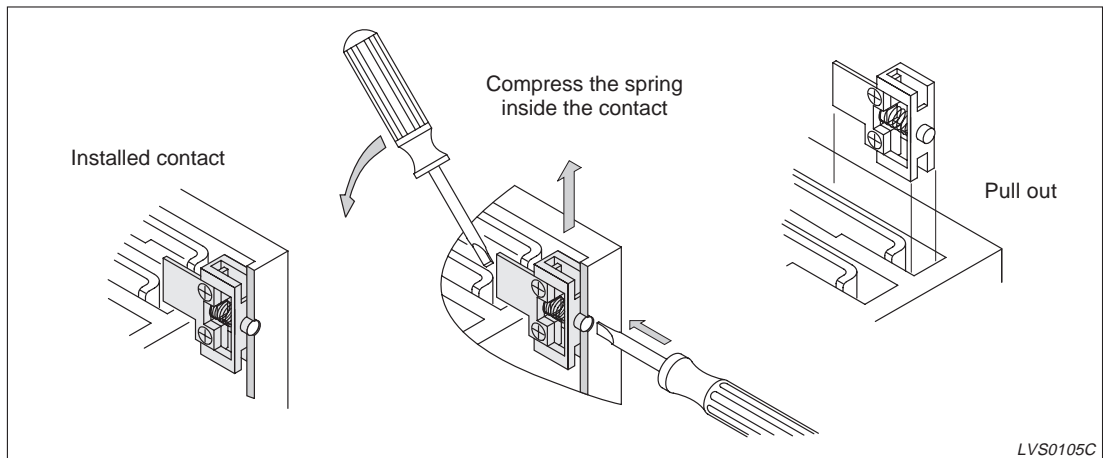

Fig. 4-41: Removal of the shorting b-contact from the strip
- ⑥ Insert the small cross screwdriver into the hole of the control circuit terminal. Then, lightly turn the screwdriver to the upside as shown in fig. 4-41. The SBC can then be removed.